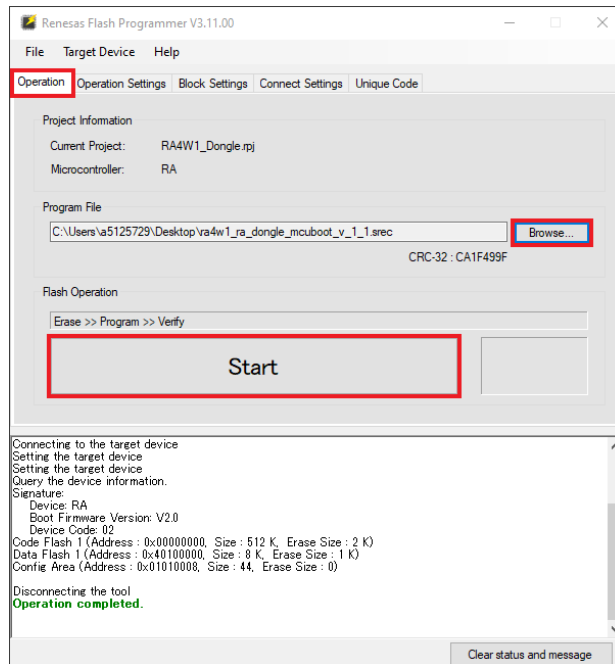

Figure 8. Selection of the Program File
7. Select the **Operation** tab and click on the **Browse...** button (Figure 8). In File Explorer navigate to the location of the bootloader binary file (.srec), select it and then click on the **Open** button. Click on the **Start** button to download the file into the code flash memory.